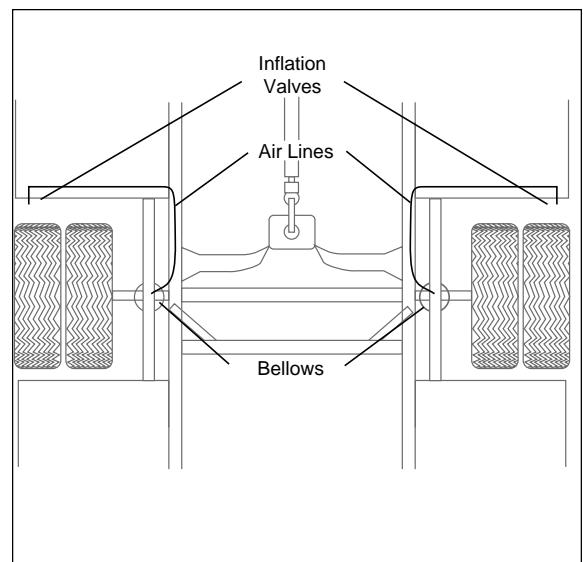

Figure 6
- Select a location for the inflation valves in the rear bumper area or rocker panel flange insuring that each valve will be protected and accessible with an air hose (Figure 6).
- Route the air line from the inflation valve location along the frame rail to the air springs. Route the air line so that it will be protected from the direct heat from the muffler or tailpipe and kept away from sharp edges. The air line should not be bent or curved sharply (Figure 6). Attach air line to chassis with the provided plastic straps.